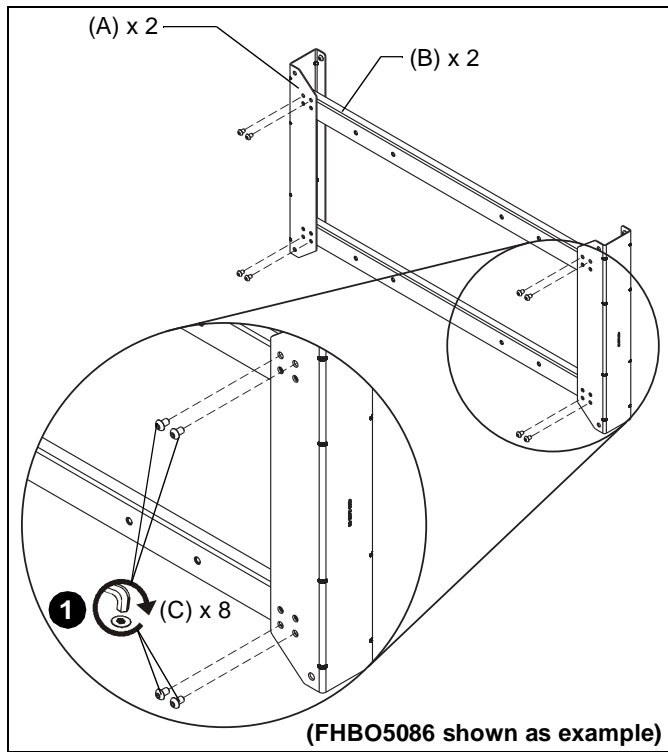

Figure 1
1. Attach the cross bars (B) to the vertical side plates (A) using eight M8x12mm button head cap screws (C) and the M8 hex key (D). (See Figure 1)